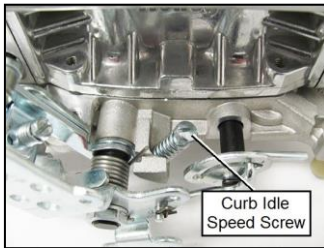

Figure 5
10. Adjust the curb idle speed (Figure 5).